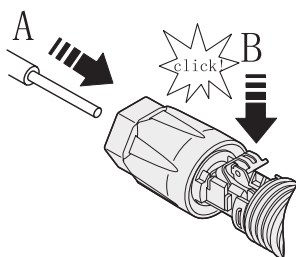

Fig. 49. Inserting the DC cable into the battery connector.
4. Insert the stripped DC cable far enough into the battery connector and replace the retaining bracket to make sure it is locked tightly to the stripped cable, as shown in Fig. 49.